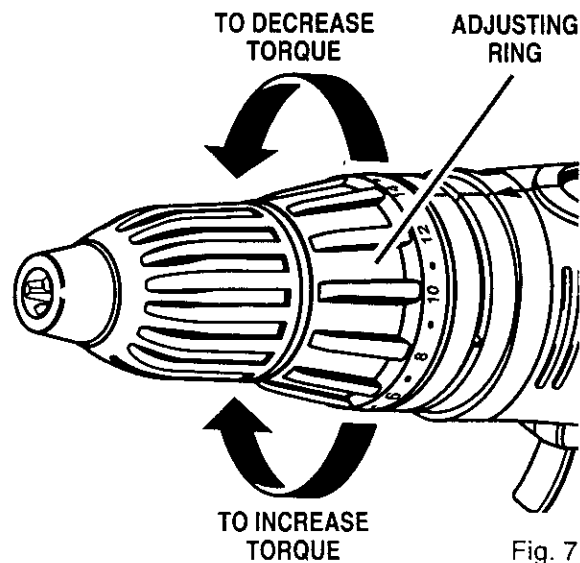

Fig. 7
- Identify the twenty four torque indicator settings located on the front of your drill. See Figure 7.